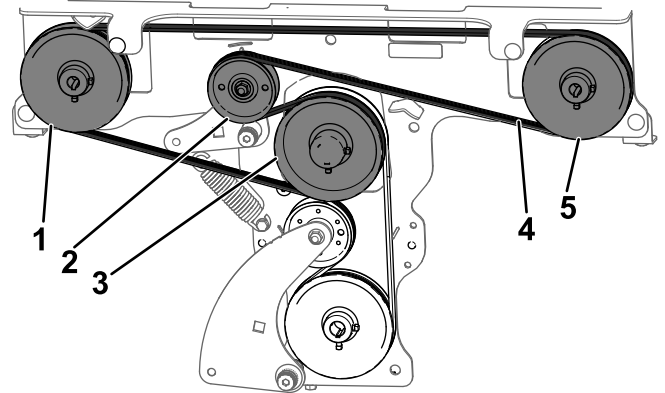

**Figure 47**
7. Install a new auxiliary-drive belt around the pump pulley, then the tensioner pulley, and then the engine pulley. Refer to Figure 47.